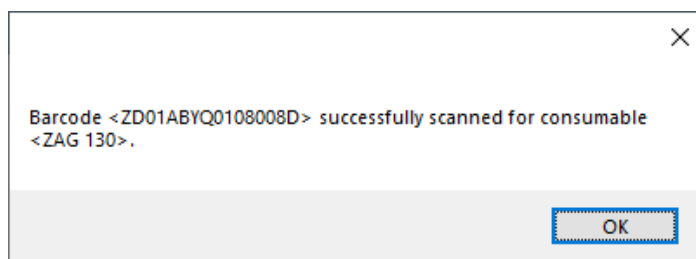

Figure 104 Acknowledgment of bar-code entry
- 4 Once the bar-code is accepted, the software responds with an acknowledgment that the bar-code was accepted (or rejected) (**Figure 104**).